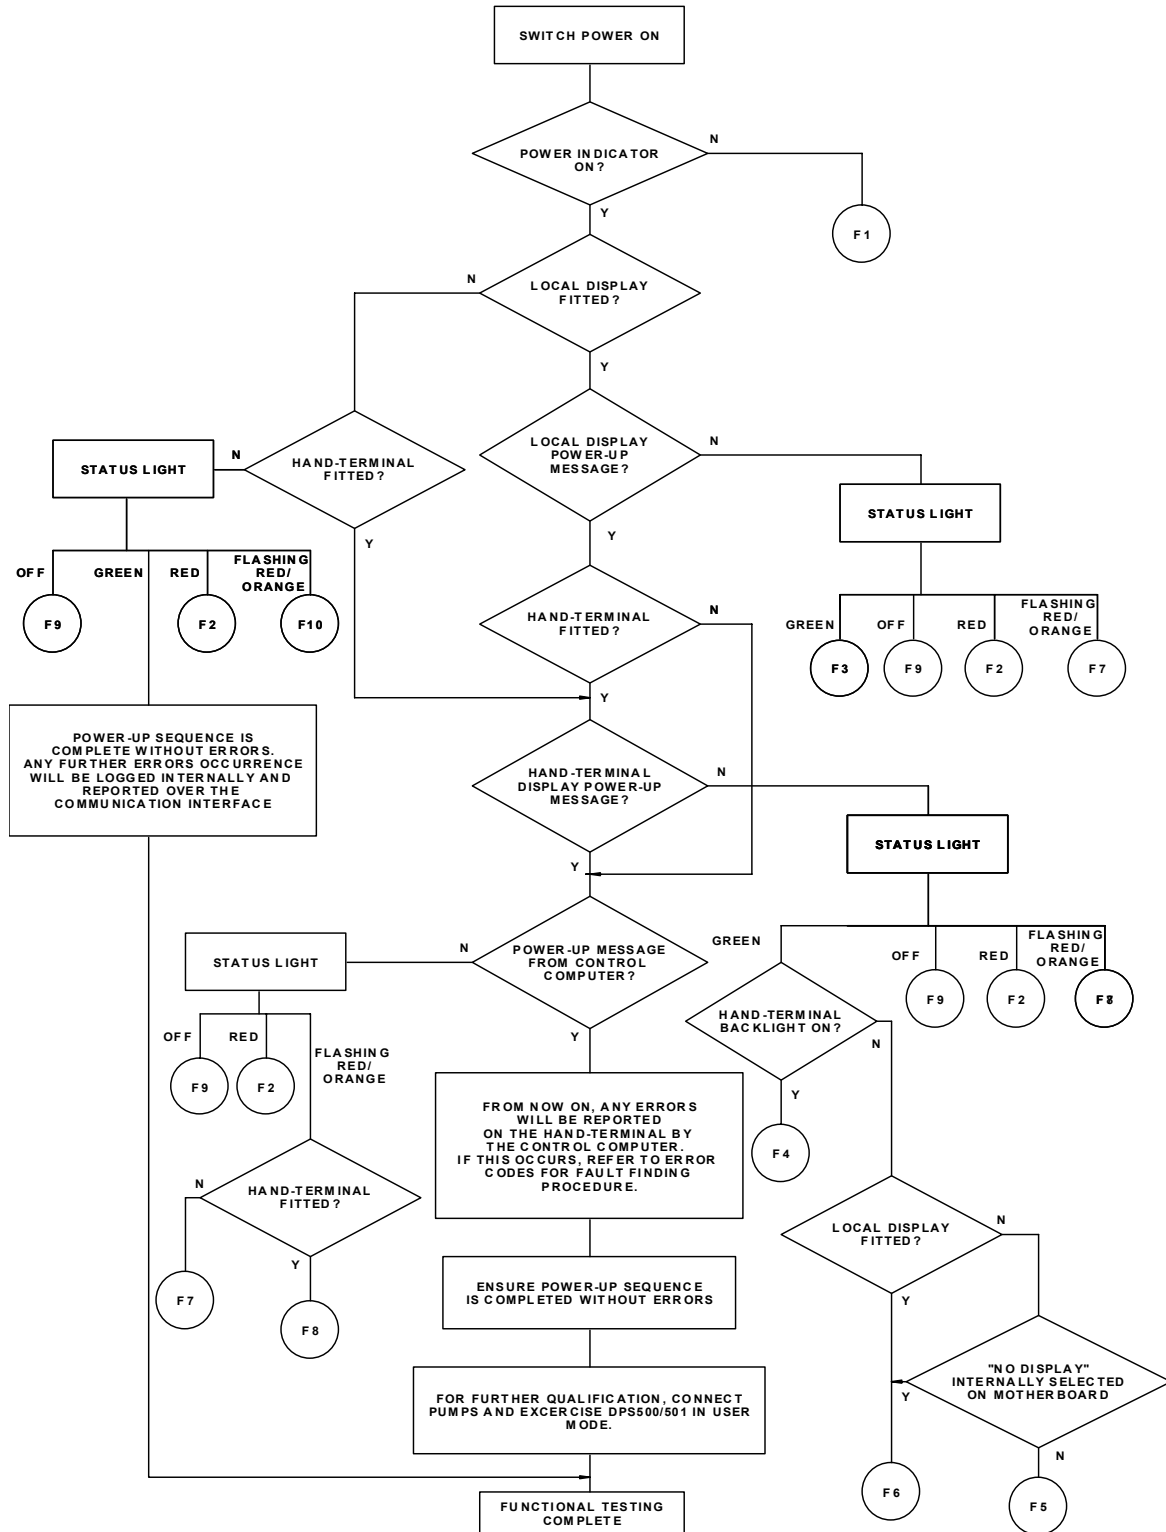

Figure 20 DPS500/501 Fault Finding Chart
- (1) If a controller fault occurs during normal operation, an error will be displayed.
- (2) Controller errors have additional information contained in one byte. Refer to the service manual.
- B. If a fault occurs, refer to the fault location chart, Figure 20, page 6 and Table 4, page 107 for possible fault causes and recommended action.